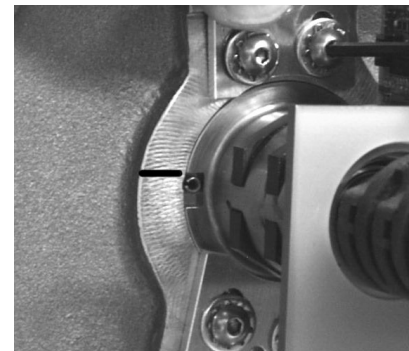

Figure 2
6. Use a fine point marker to note the position of the control end relative to the drive body. Mark the face of the drive immediately adjacent to the top of the notch (see Fig. 2).
7. Loosen (do not remove) the mounting clamp screws, (4) #8-32 socket button head screws (2 per clamp), and slide the top clamp up over the edge of the shoulder in the body, immediately above the stator flange. Snug one of the screws to hold the clamp up while replacing the assembly. Allow the bottom clamp to hang by the screws.
15. Slide the new assembly onto the shaft, turning the coupling (if necessary) to align the assembly with the shaft. Align the notch in the stator with the locating pin situated to the left of the control end shaft (see Fig. 2).
16. Loosen the clamp screw to allow the top clamp to drop into place over the upper rim of the stator. Rotate the assembly as necessary to align the top of the notch with the mark made earlier on the drive face. Snug the screws down on the plate. Raise the bottom clamp into position and snug its screws down. Check the clamps for proper shoulder clearance and tighten the (4) #8-32 socket button head screws to 12 lb-in torque.